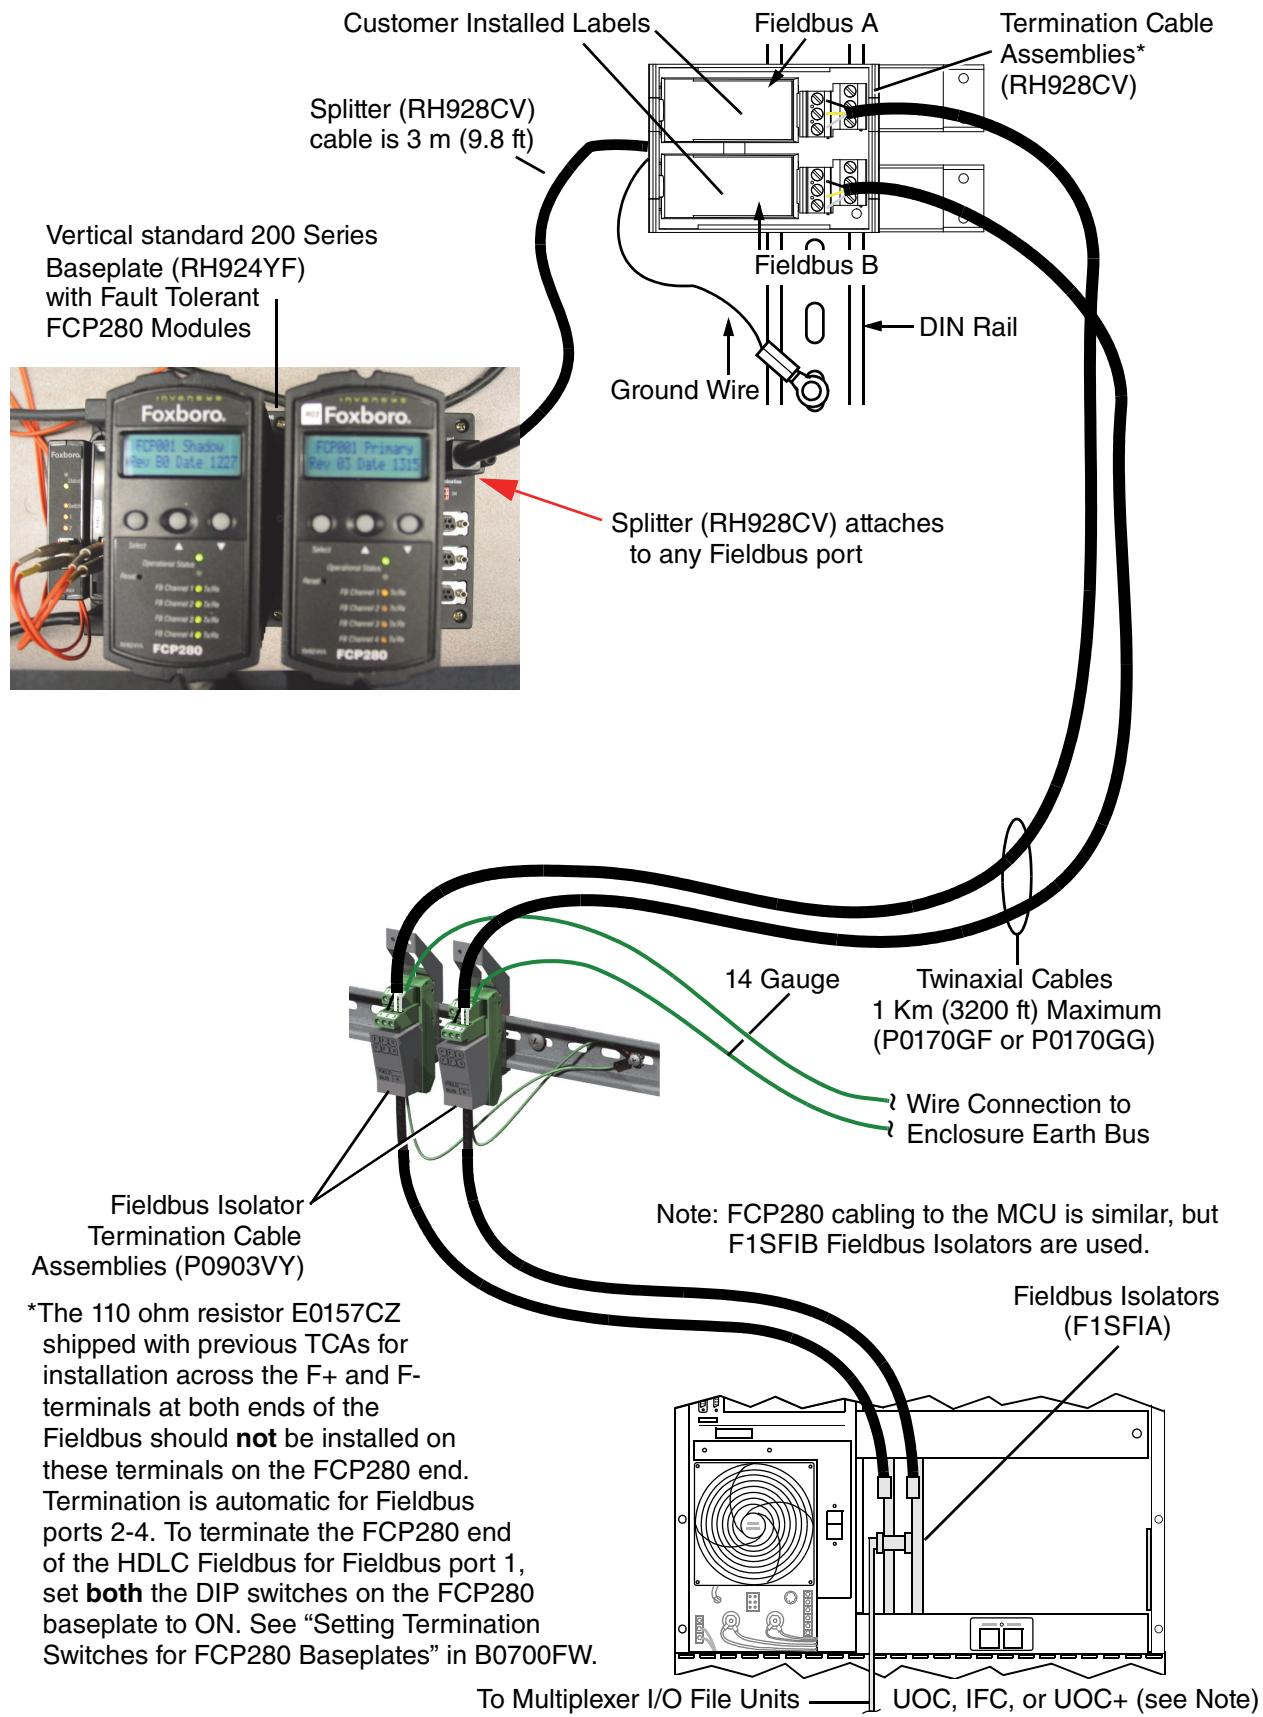

Figure 4-6. Cabling Fieldbus Isolator Cards to an FCP280 Baseplate
Cabling an FCP280 baseplate to the Fieldbus Isolators (F1SFIA or F1SFIB) consists of extending the remote 268 Kbps fieldbus from the isolators (see Figure 4-6). This extension, used between enclosures, involves the use of termination cable assemblies (TCAs) and twinaxial cable to provide cable connections between primary and extended fieldbus segments, for a maximum fieldbus length of 1 Km (3200 ft). If the fieldbus is non-redundant, only one TCA is connected to the FCP280 baseplate.
2. Connect the splitter (RH928CV) to the appropriate port on the FCP280 baseplate. The splitter includes both a plug for the Fieldbus port and the TCA termination block which you installed in the previous step (see Figure 4-6). Refer to “Fieldbus Splitter
Finish making the cable connection(s) to the fieldbus splitter/terminator or fieldbus splitter as shown in Figure 4-6.
- ◆ Terminating resistors are used only at the Fieldbus isolator TCA end of the bus. Add the terminating resistors (supplied with the termination cable assemblies) to the P0903VY termination cable assemblies as shown in Figure 4-6.